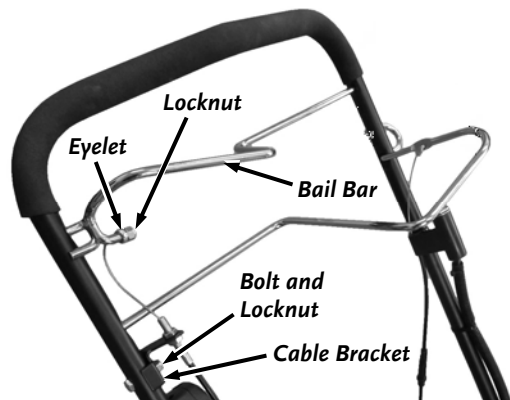

Figure 37
5. Remove the Locknut that is securing the Drive Cable Eyelet to the Bail Bar using a 7/16" Wrench and remove the Eyelet from the Bail Bar (Figure 37).
18. Reattach the Cable Bracket to the Handlebar using two 7/16" Wrenches (**Figure 37**).